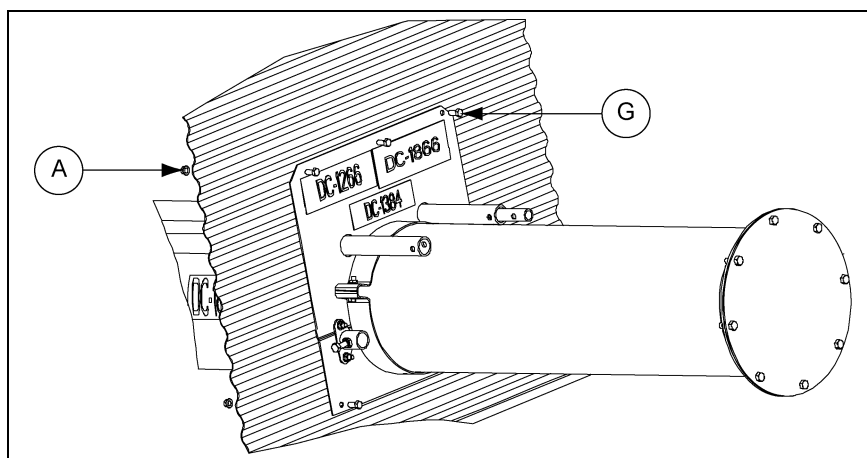

Figure 4R
- Slide the bin flanges flush up to the bin wall and tighten the two (2) bolts connecting the two (2) flanges.
- Drill into the bin wall through the holes located in the four (4) corners of the bin flanges. Fasten the bin flanges to the bin wall using four (4) 5/16" x 3/4" bin bolts (G) and serrated flange nuts (A).
- Drill the remaining hole into the bin wall and attach the remaining 5/16" x 3/4" bin bolt (G) and serrated flange nut (A). (See Figure 4R.)